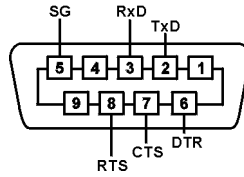

Figure 5: RS232C Pin Assignment
1. Check the RS232 cable to ensure that the pin assignment is correct (Figure 5). Use a straight-through cable.